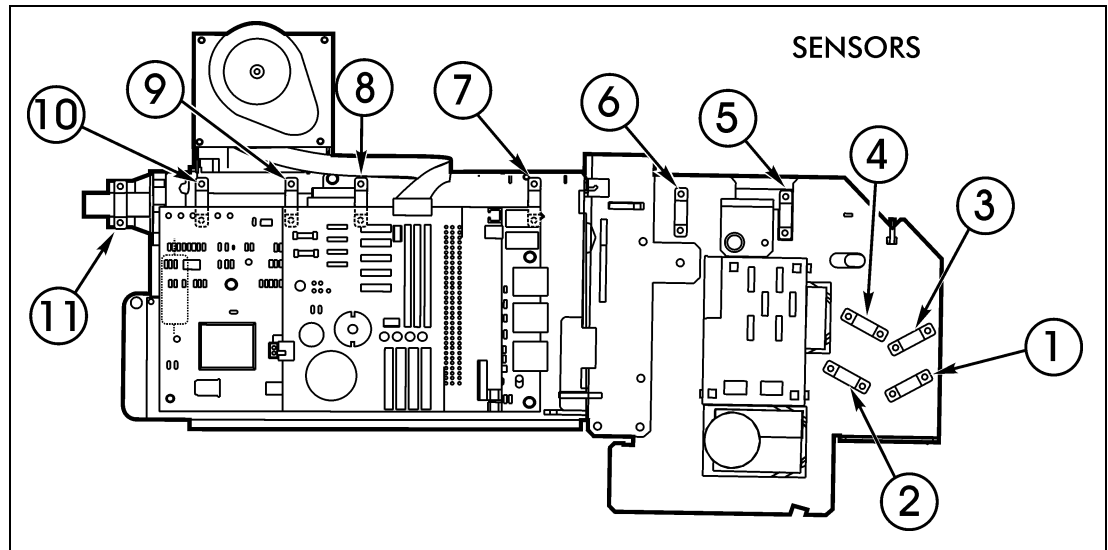

Figure 3-2: Sensor Positions
1. Locate the jammed ticket within the ticket transport. Make a note of the condition of the ticket (bent, torn, etc.), the sensor(s) at the position the jam occurred (refer to Figure 3-2 for sensor numbers) and any blockage or damage to the channel. This will help to indicate the cause of the jam (dirty or damaged sensor or channel obstruction) to aid in diagnostics.
It is important to keep the Ticket Path clean and clear of dust, dirt and magnetic residue generated by handling tickets. Use a can of compressed air (GC Electronics p/n 10-8475 Airjet II is recommended: it is anti-static and leaves no residue) or a vacuum cleaner to clear the channel whenever dust is visible. This is particularly important around the position sensors. Dirt around a sensor can be read as a ticket when none is present and cause an intermittent error. Refer to figure 3-2 for sensor positions. The sensor positions are referred to in the Diagnostics Routine.